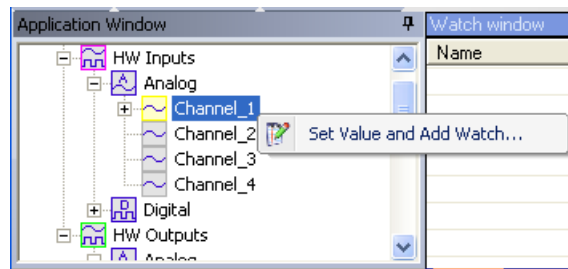

**Figure 129: Adding an Output to the Watch Window**
- Right-click the desired channel and select Add Item to Watch (Figure 129).
In Figure 129, a PID control loop has been defined in the application and includes a 4-20 mA Analog Input and a 0-10 V Analog Output. The variables/HW channels under watch are as follows: